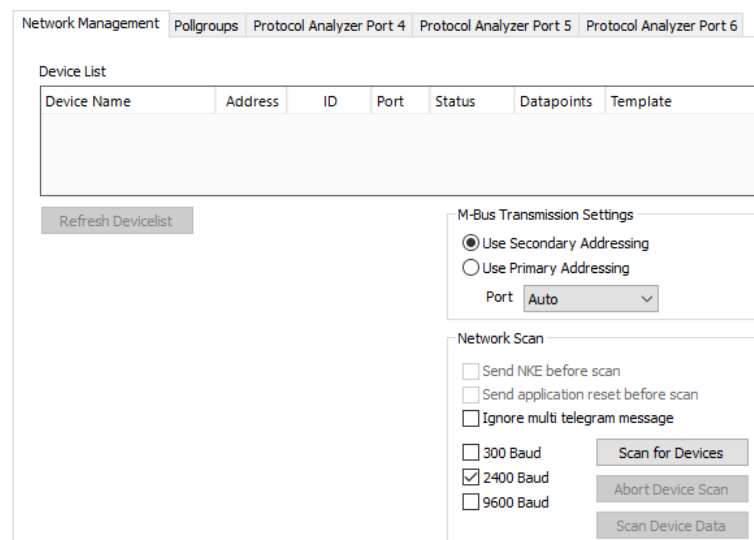

Figure 135: M-Bus Network Scan dialog.
2. Right click on the Folder **M-Bus Network Scan** and select **Scan M-Bus Network**. This opens the **M-Bus Management** Dialog containing the scan options shown in Figure 135.